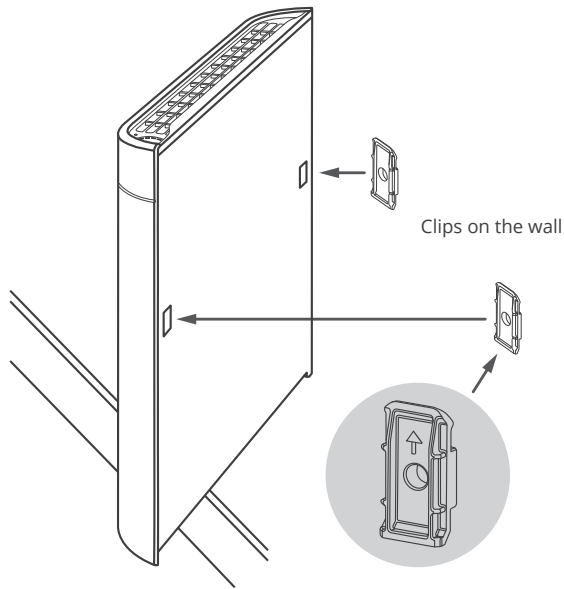
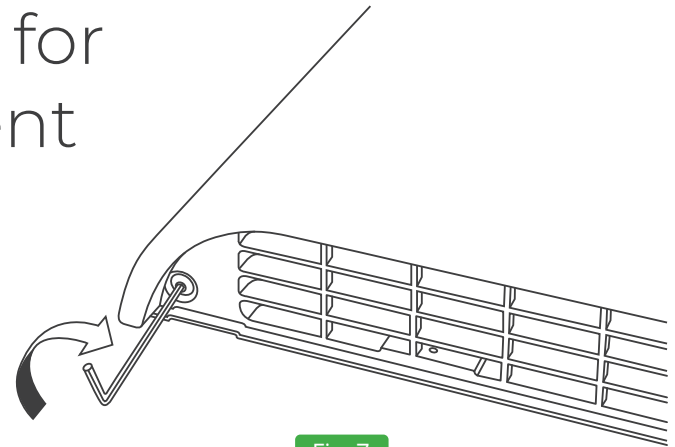

Fig. 5
Fig. 7
- 5** Note: make sure you pre-install the Locking bar screw before you mount the heater. (See Fig. 7 below). Install heater on mounting clips (align right side first) and make sure to press down firmly on the heater to ensure a secure fit. You will hear it “snap” into place. (Fig. 5 above)
- 1 Installing the Locking Bar Screw (Fig. 7) BEFORE YOU MOUNT THE HEATER TO THE WALL.** Take the locking bar screw out of the mounting kit and while the heater is laying flat, use the Hex/Allen key provided to pre-install the screw in the hole at the left hand side of the bottom vent (Fig 7). Twist the locking screw in about 3/8 of an inch but make sure you do not screw it in too far as it will obstruct the mounting holes at the back of the heater and prevent secure mounting.
- 3 Tighten Locking Screw (Fig 7)** Follow the rest of the mounting instructions to ensure the heater is properly seated on the mounting clips and then tighten the locking screw to fix the heater to the wall. **DO NOT USE A POWER TOOL! DO NOT OVERTIGHTEN,** just turn the screw until the locking bar presses gently up against the left hand mounting clip inside the heater.